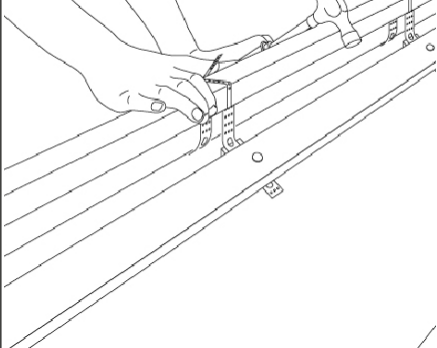

Fig 3
- 3 Place the ridge batten(s) along length of ridge between the perforated straps of ridge batten brackets. Bend over the straps and nail each securely to the ridge batten using the nails supplied. Joints in ridge batten should be made half way across a ridge batten bracket to ensure the ends are secured (Fig. 3).